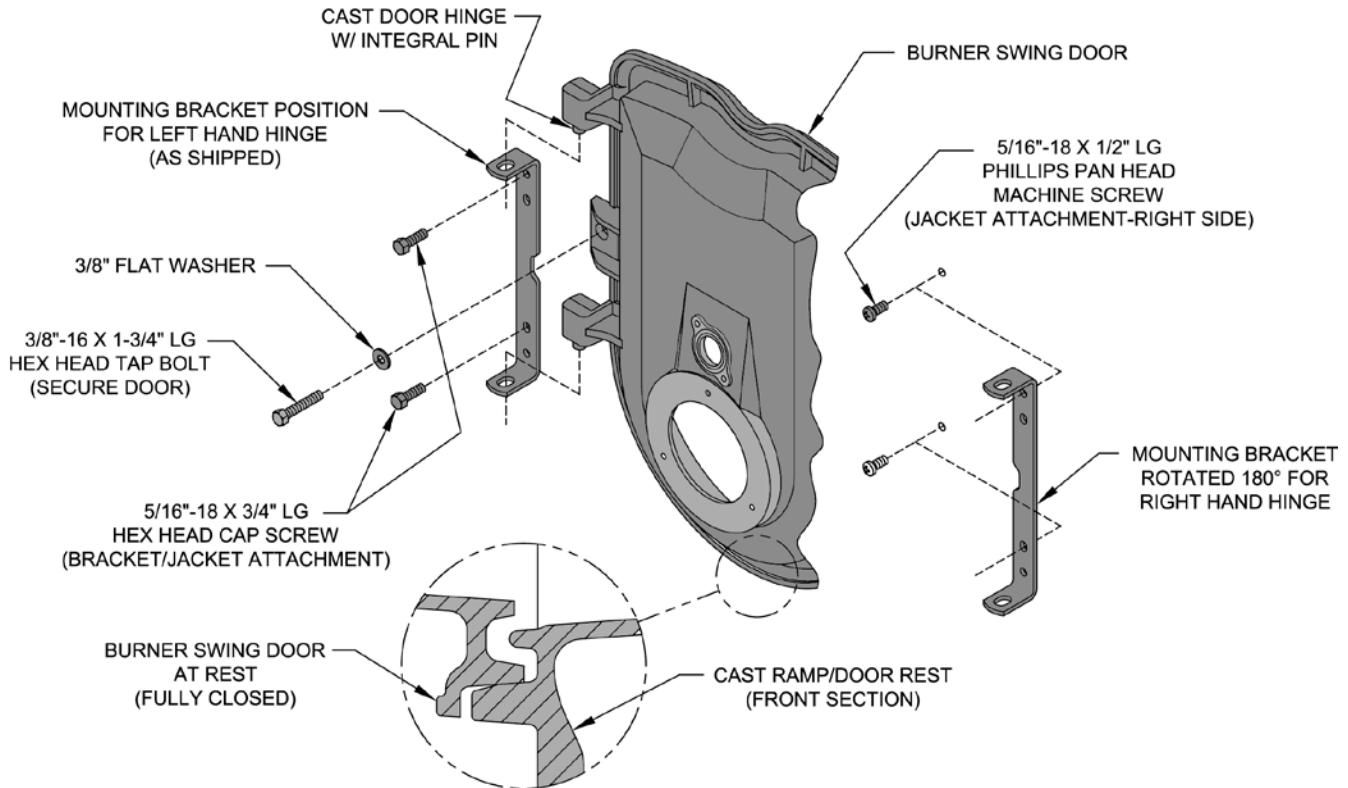

Figure 4A: Partial Front View - Burner Swing Door Mounted to Boiler - Fully Closed and Secured
(see Figures 4A and 4B).
To reverse hinge arrangement (see Figure 4A):
3. To close Burner Swing Door (see Figures 4A and 4B):
Step 2. If necessary, place your right hand under the burner air tube to lift upward. Lift the door up unto the built-in cast ramp/door rest (protruding from the bottom of the front section casting - see Figure 4A).